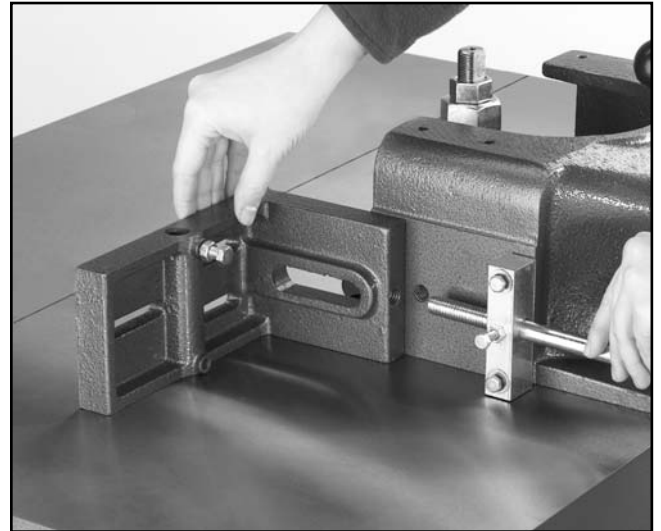

Figure 14. Adjustment guide to fence bracket.
1. Insert the adjustment shaft into the fence bracket as shown in **Figure 14**.